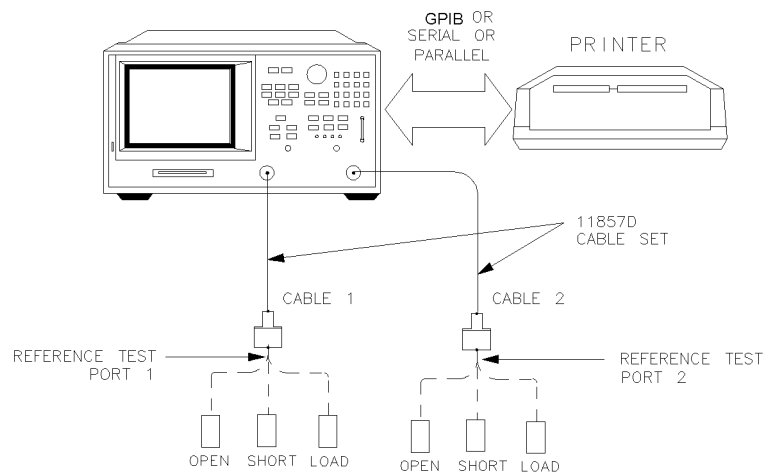

Figure 2-2. Connections for Measurement Calibration Standards
- 4 Connect the “open” end of the open/short combination (supplied in the calibration kit) to reference test port 1, as shown in Figure 2-2.